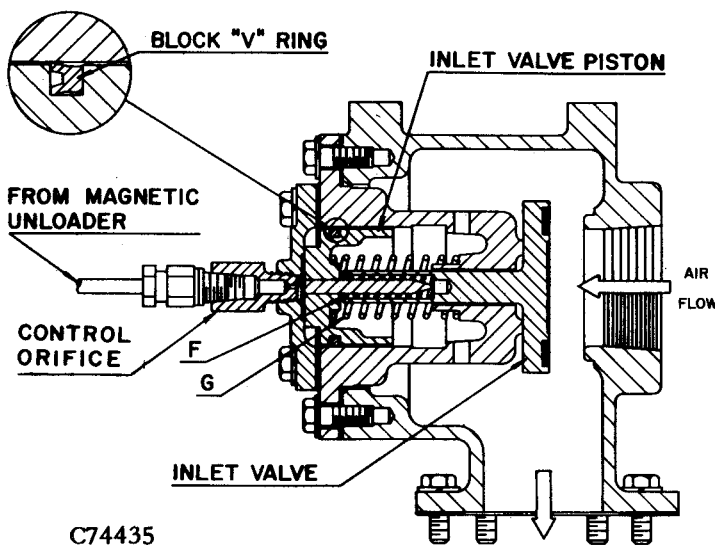

FIGURE 10-2. – INLET VALVE FOR DUOMATIC CONTROL
**DUOMATIC CONTROL SYSTEM** (Figures 10-2, 11-2 & 12-2) – The Duomatic Control system is used where air requirements vary widely, change in frequency of demand and where it is desirable to have some degree of control over the length of time the motor will run after the compressor unloads. During the time the compressor is unloaded with the motor running, the unit draws only about 20% of loaded power at 100 PSIG.
**Inlet Valve** (Figure 10-2) – The piston-actuated inlet valve controls the compressor inlet and operates on air pressure from the control circuit. The valve is closed when preset full pressure is on the system, and open when the pressure in system falls to a preset minimum. The inlet valve contains piston spring “F” which returns piston and allows the inlet valve to open when the pressure is removed, and valve spring “G” which returns the valve to closed position on shutdown of the compressor to prevent blowback from the compressor to the air filter. The control orifice prevents valve “slam”.